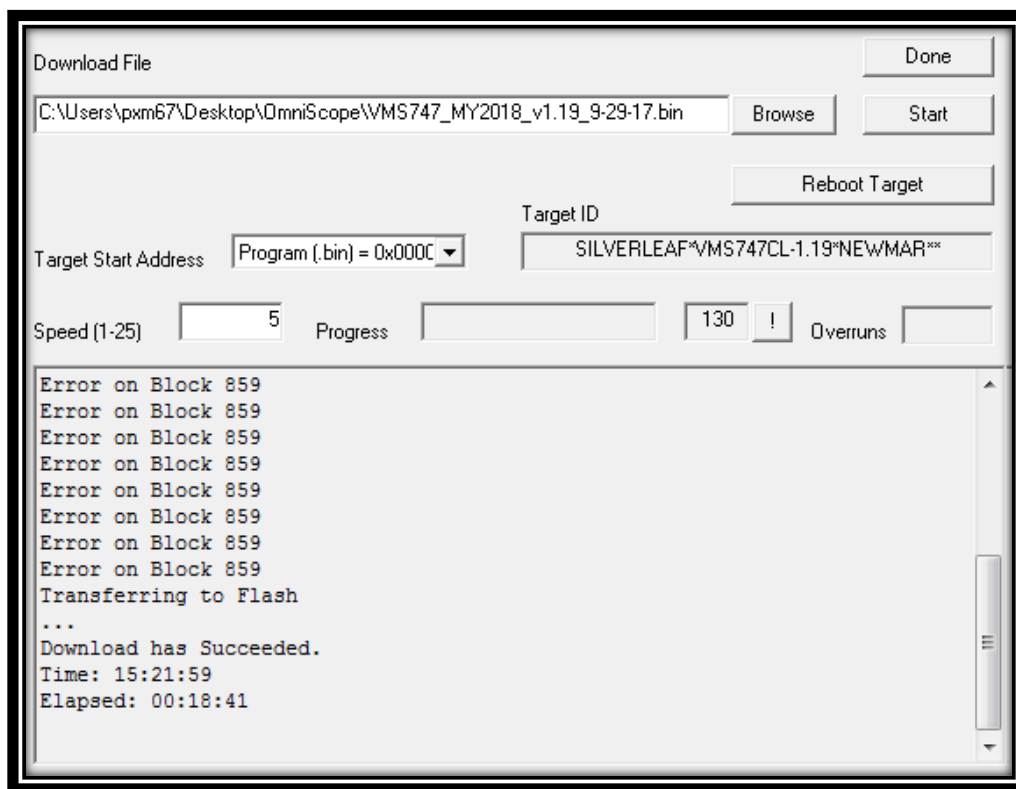

FIG. 8-1
8. Once software has downloaded, program will indicate it has been transferred to flash and that 'Download has Succeeded.' Then press 'Reboot Target' button. Refer to FIG. 8-1.